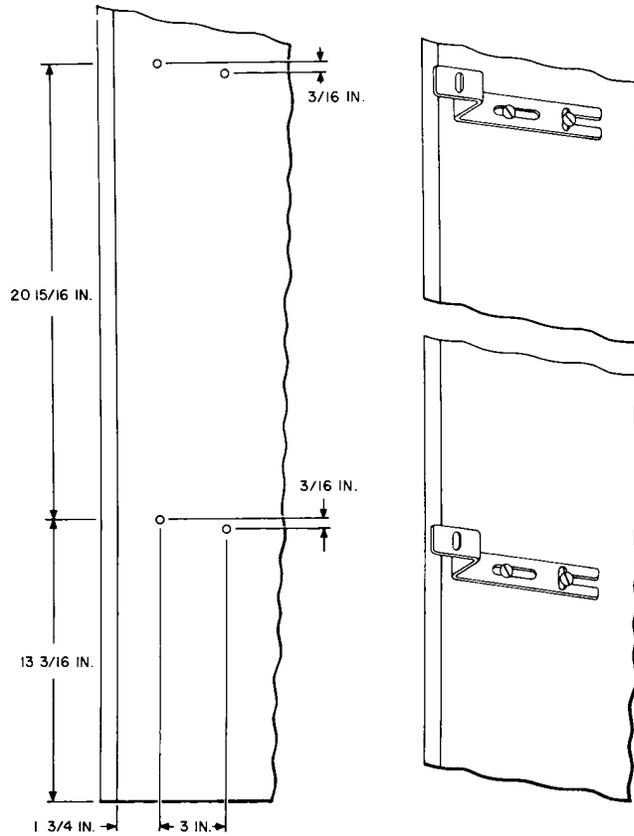

Fig. 16—Mounting of Cord Circuit Hanger Brackets
3.31 Cord Circuit hanger brackets (P-41F676) are provided on later PBX to assist in the maintenance of cord circuit units. They are used to hold the cord while it is being repaired. These brackets and screws (P-353447) for mounting are shipped loose and must be mounted by the installer on the left-hand panel of the PBX where anchor nuts are provided for installing the brackets. See Fig. 16. When properly mounted, the brackets can be disengaged by lifting slightly and pulling outward, after which, it will hang freely inside the PBX. On PBX not equipped with anchor nuts, the brackets may be mounted using 5/8-inch No. 12 R.H. steel wood screws.